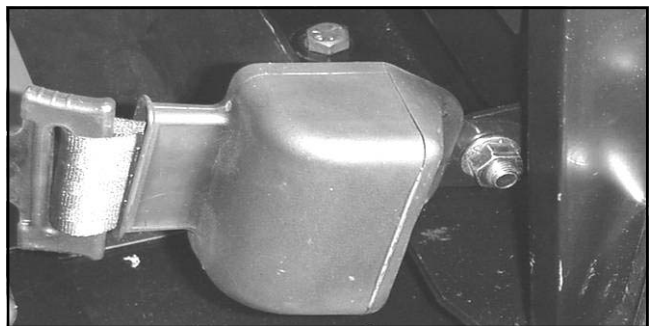

Fig. 20.2 (seat belt retractors)
20.2 Install one seat belt retractor to the left and right sides of the lower rear panel using one 7/16-20 x 1" long hex head bolt, one steel washer, and one locknut. Figure 20.2 shows the driver's side seat belt retractor.